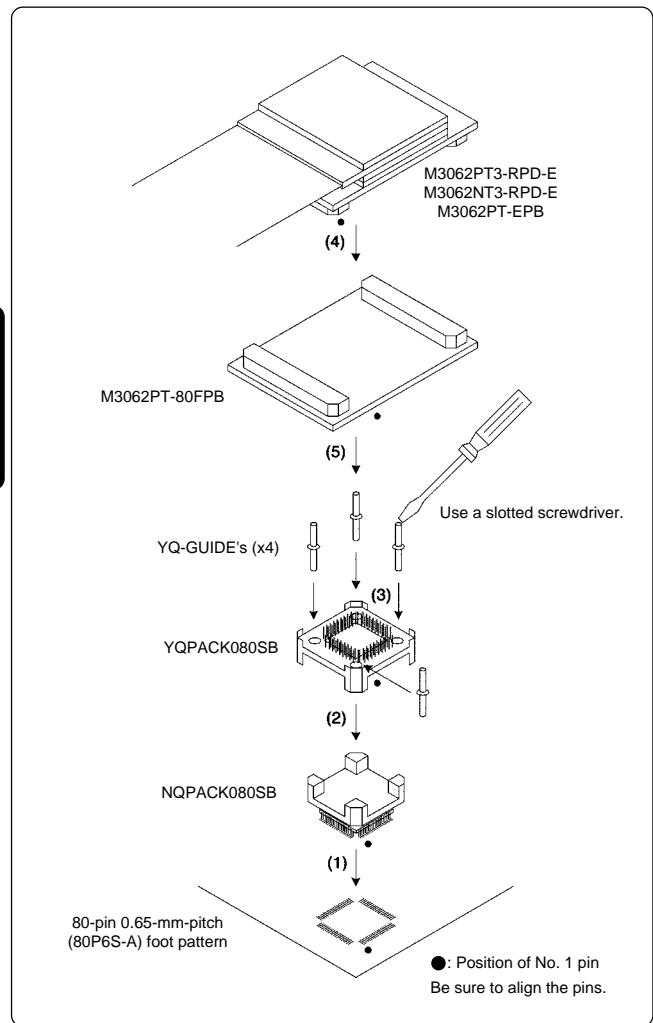

Figure 3 Connection procedure
5. Connection Procedure (See Figure 3)